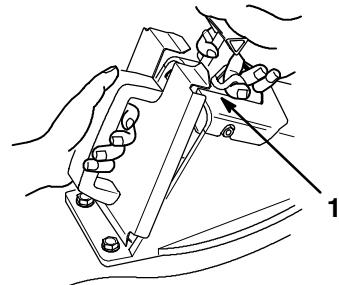

Figure 44
4. Insert the plug into the discharge tunnel opening and fit the lower section into the opening first (Fig. 44).
5. Lift the door latch on the door handle (Fig. 44), and push the top of the plug all the way in while moving the door handle rearward.